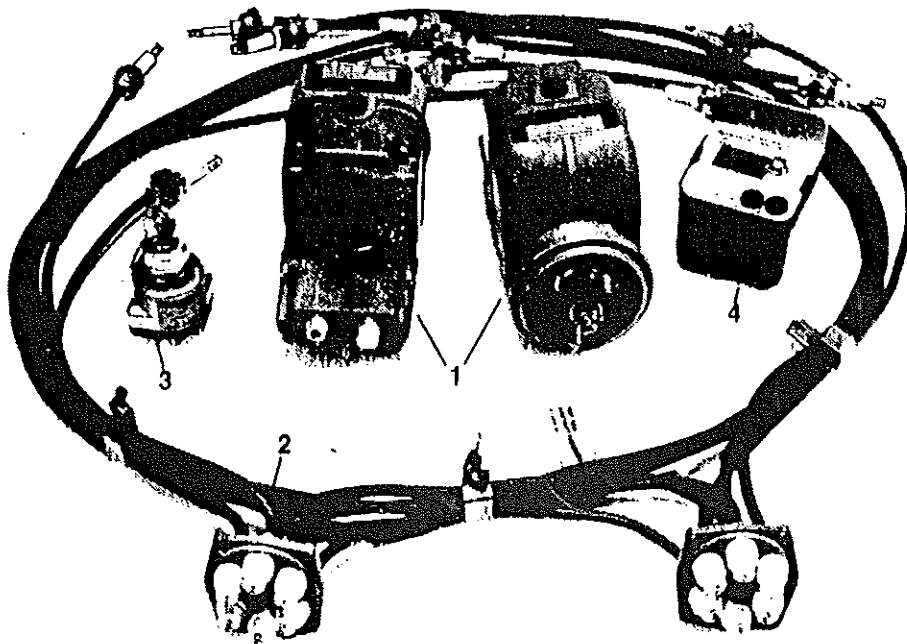

Figure 201. S-200 Magneto and Associated Components
- B. To obtain the retard spark necessary for starting, S-20 Series Magneto Ignition systems employ an Impulse coupling, and S-200 Magneto Ignition Systems include an additional contact assembly used in conjunction with a starting vibrator. Figure 201 shows the components used in a typical S-200 Ignition System incorporating a starting vibrator. This system consists of a single contact assembly magneto, a dual contact assembly magneto (item 1), an ignition harness (item 2), a combination ignition and starter switch (item 3), and a starting vibrator (item 4).
- (1) "S" indicates single type ignition unit.
- (2) "4" or "6" indicates number of cylinders fired.
- (3) "R" or "L" indicates direction of rotation of rotating magnet viewed from drive end; R for right-hand (clockwise), L for left-hand (counterclockwise).
- (4) "N" indicates manufactured by TCM.